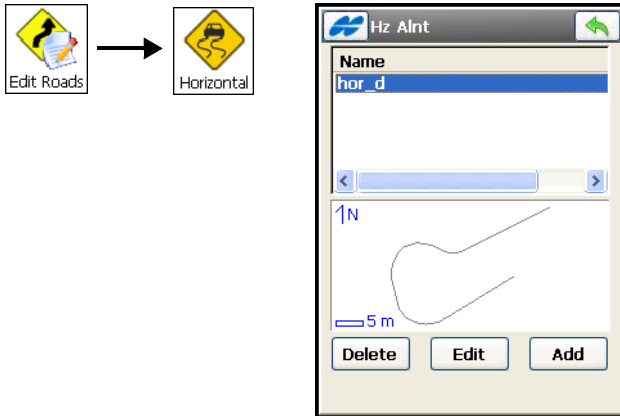

Figure 7-5. Horizontal Alignment
1. On the **Hz Alnt** screen (Figure 7-5), either double-tap the horizontal alignment or highlight it and tap the **Edit** button.